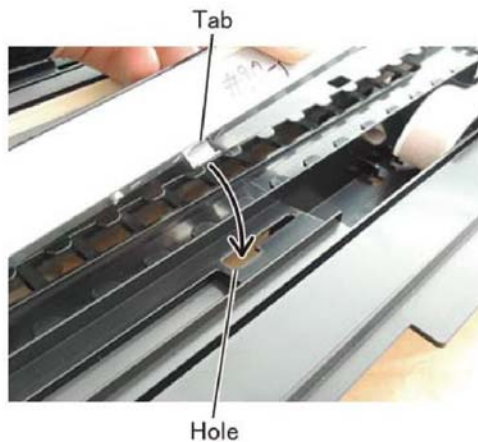

Figure 7 Block
2. When installing the LPH, insert the tab at the bottom of the LPH into the installation hole of the marking guide, Figure 7.